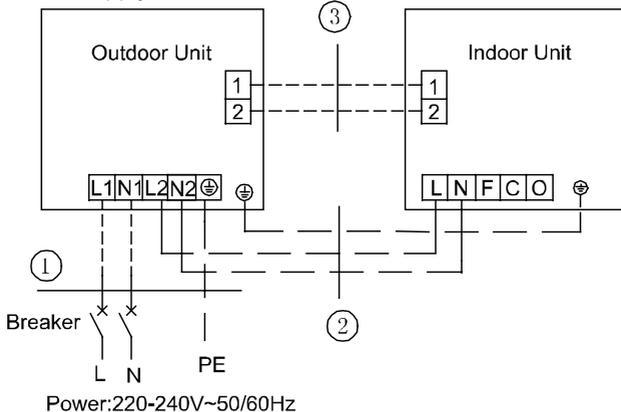

Fig. 4.39
| ⑦. Connect the indoor unit connection cord properly based on the corresponding marks as shown in Fig. 4.39. |